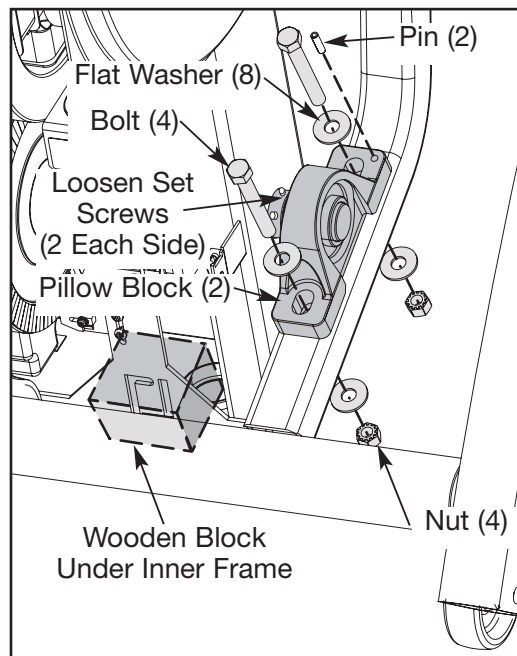

Figure 22
- A. Place a wooden block under the inner frame. See Figure 22.
- B. Using a 9/16" socket wrench and a 9/16" open end wrench, remove the two bolts, four flat washers and two nuts from each of the bottom pillow blocks. See Figure 22.
- C. Pull each pillow block and pin off the frame. See Figure 22.
- D. Remove the wooden block from under the inner frame. See Figure 22.